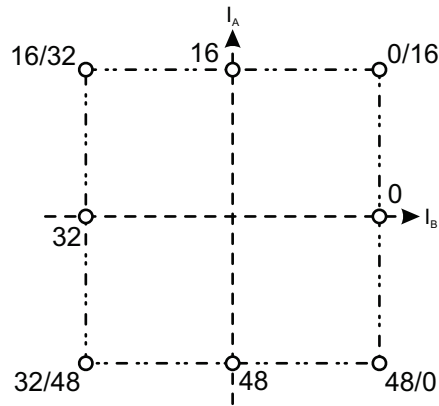

Figure 14: Uncompensated Half-Step Phase Diagram
Uncompensated half-step mode does not reduce the current based on the step angle. Instead, each phase is driven to the current target defined by the 100% current value at steps 0, 16, 32, or 48, in the phase angle table. This is the value stored in the PT(15) variable. The current polarity is the same at each half-step angle, as defined in the phase angle table. The resulting phase diagram is shown in Figure 14.